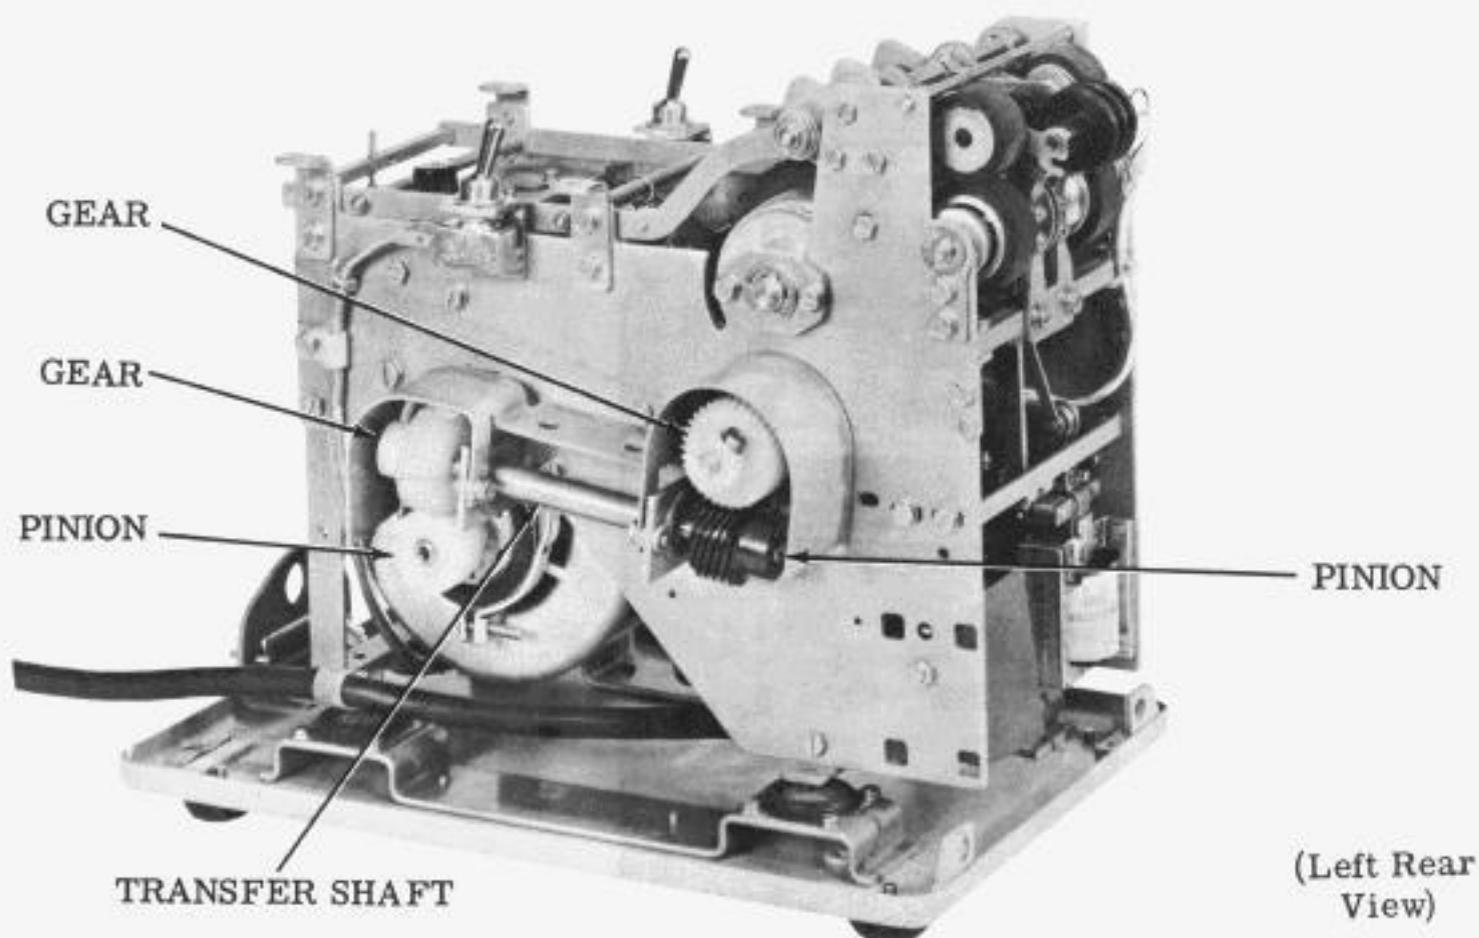

Figure 4 - 35 Edge Punched Card Feeder (Without Cover and Top Plate)
3.03 The speed of the feed rollers is reduced by means of gears (Figure 4), so that the insertion speed of the card is approximately 12 inches per second.